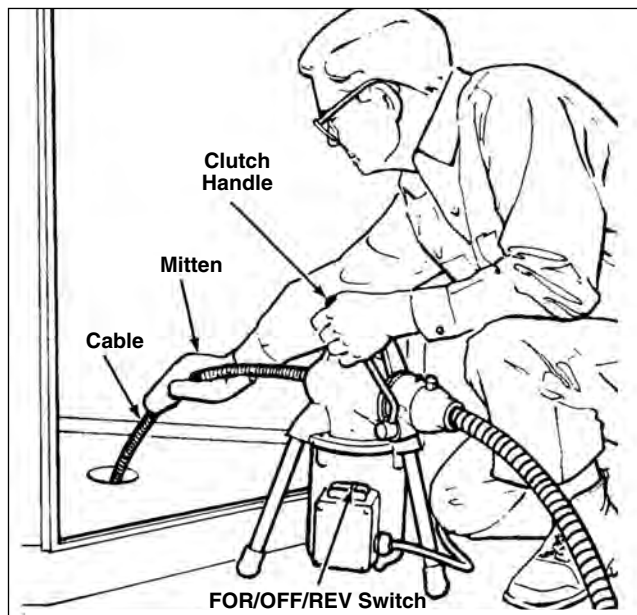

Figure 6 – Proper Operating Position
- Assume the correct operating posture in order to maintain proper balance (*Figure 6*).
1. Assume the correct operating posture in order to maintain proper balance (*Figure 6*).